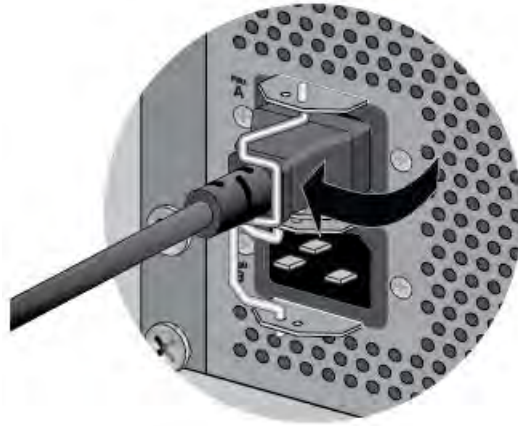

Figure 57. Securing the AC Power Cord with the Retaining Clip
2. Move the retaining clip over the power cord to secure the cord to the switch. Refer to Figure 57.